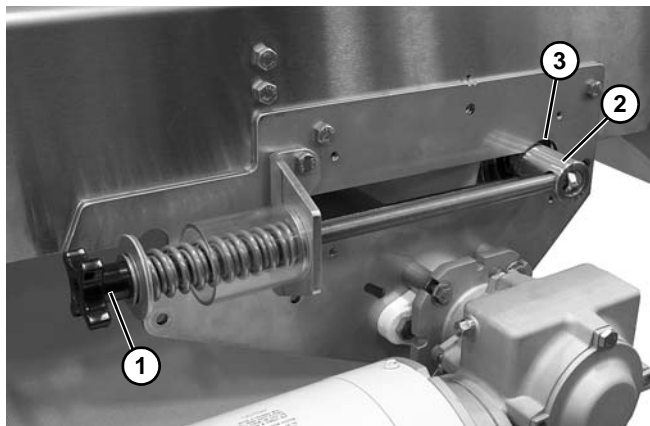

Figure 100
6. Loosen tension nut (**Figure 100, item 1**) on each side of the center drive so that the tension pulley spacer (**Figure 100, item 2**) aligns with hole (**Figure 100, item 3**).